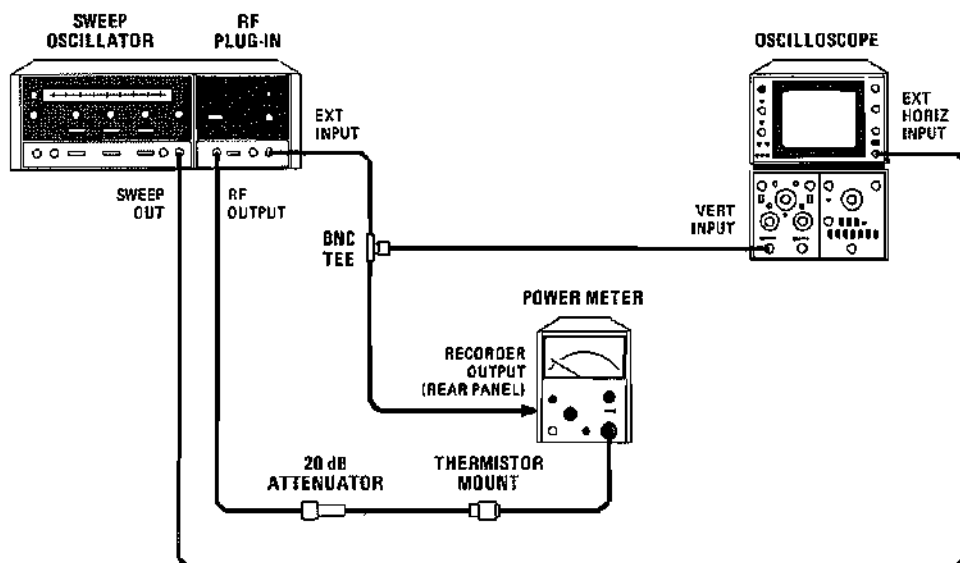

Figure 4-8. Power Meter Leveling Test Setup
- h. Connect equipment as shown in Figure 4-8. Set External Leveling Selector switch A3S2 to PM (Down) position. Selector switch A3S2 is located at top of A3 ALC Assembly. (Refer to Figure 5-1.)